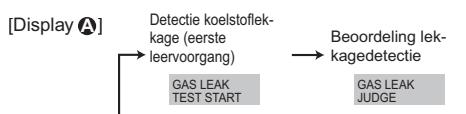

Fig. 8-2
- ② Druk op **CLOCK** en selecteer [GAS LEAK TEST START] (GASLEKKAGE TEST START). (Fig. 8-2)